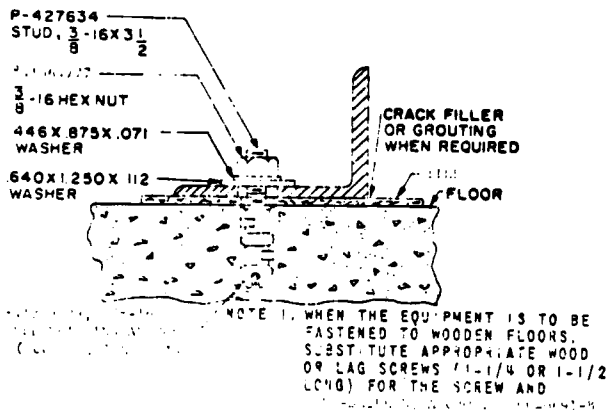

FIG. 3 FASTENING FRAMES AND RACKS OF ANGLE BASE CONSTRUCTION TO FLOORS
(BSP 800-614-154 Fig. 3)
4.17 The LDF is bolted to the floor as shown in Figure 3 with one floor bolt at each end unit and one at every third intermediate unit, approximately twelve bays apart.